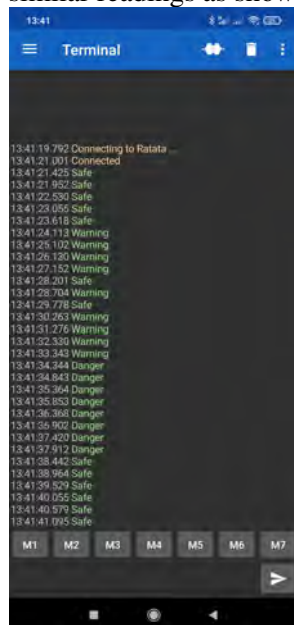

Figure 10.4: Reading Data via App
38. Move your hand accordingly to change the distance read by the ultrasonic ranger. Check what kind of messages your are getting in your app. These messages are sent over BLE by BLE module. You should see similar readings as shown in Figure 10.4.